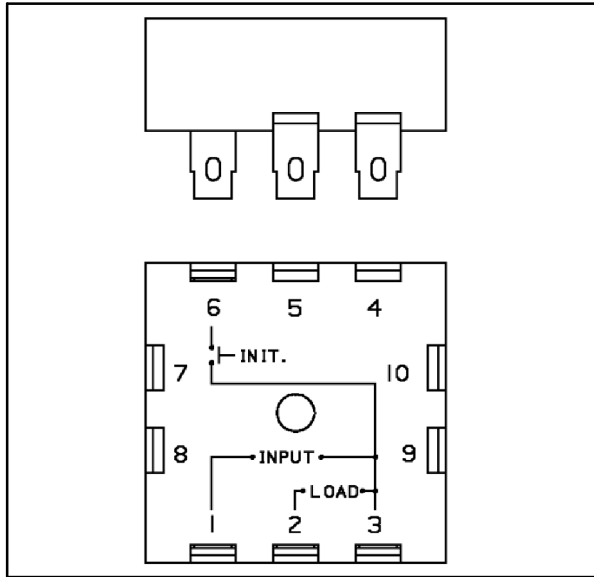
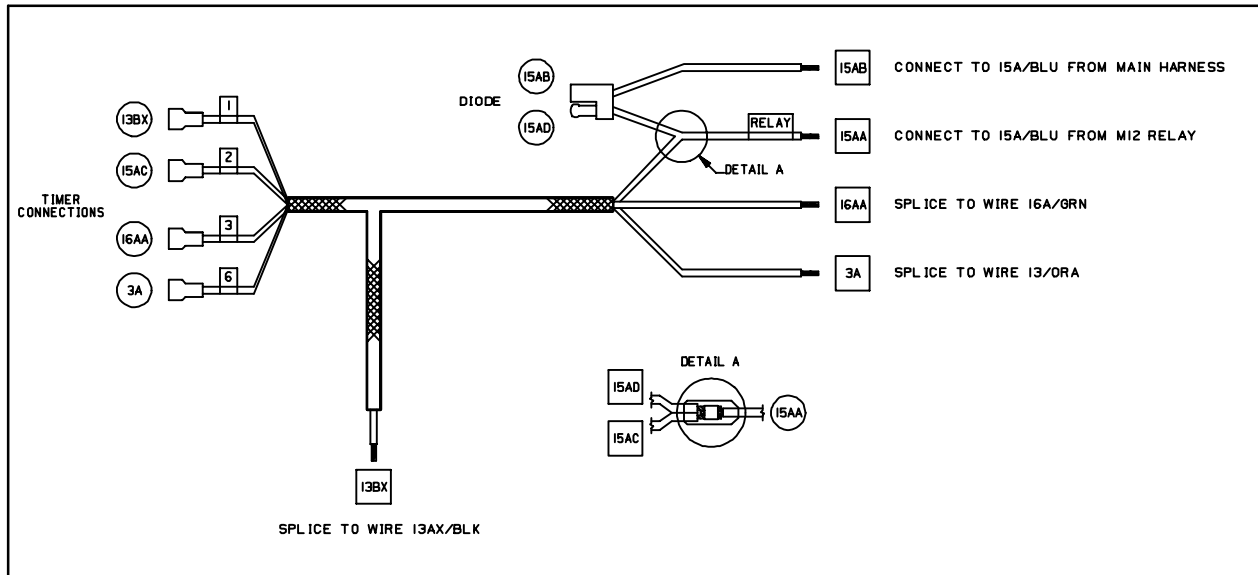

FIG. 2
FIG. 6
Note: Refer to the schematic in Fig. 5 and the cable diagram in Fig. 6 for additional wiring information.
19. Slide a heat shrink tube onto 16A/green wire extending from the M2 relay (H).
20. Splice the 16AA/GRN wire from the wire harness (1) and the 16A/green wires extending from the M2 relay (H) and the engine governor controller (G) into a crimp splice connector.
22. Cut the 13AX/black wire approximately half way between the M2 relay (H) and the engine governor controller (G).
23. Slide a heat shrink tube onto 13AX/black wire extending from the engine governor controller (C).
24. Splice the 13BX/BLK wire from the wire harness (1) and the 13AX/black wires extending from the M2 relay (H) and the engine governor controller (G) into a crimp splice connector.
26. Connect the wires labeled 1, 2, 3, and 6 on the wire harness (1) to the corresponding terminals on the timer (2). Refer to Fig. 2, Location A in Fig 5, and Fig. 6.